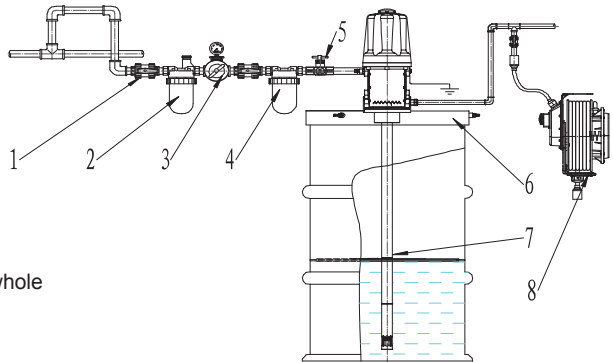

Fig.3: Oil supply system installation
Typical installation refers to Fig.3:
- Install a pump on drum cover (See fig.3 part 6), and then to barrel.
- On the main line of air compressor, connect bleed-type master air valves which controls on and off air motor. (See fig.3 part 1) .
- Install an air line filter. (See fig.3 part 2) to remove harmful dirt and contaminants from your compressed air supply.
- Install the air regulator to control pump speed and pressure. (See fig.3 part 3).
- Install an air line regulator for automatic air motor lubrication. (See fig.3 part 4).
- Install a pump run-away valve to shut off the air to the pump if the pump accelerates beyond the pre-adjusted setting. A pump that runs too fast can be seriously damaged. (See fig.3 part 5).